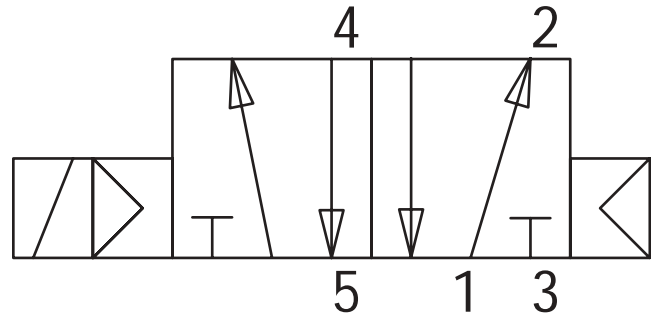
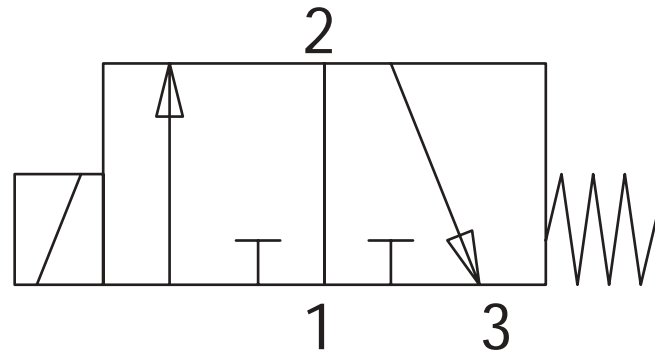
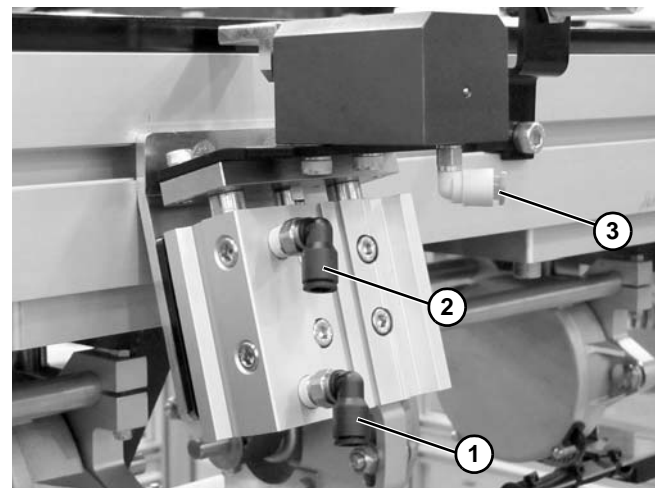

Figure 46
Figure 47
Figure 48
Dorner recommends using a 5 port, 2 way solenoid valve (Figure 46) to operate stop height.
Dorner recommends using a 3 port, 2 way solenoid valve (Figure 47) to operate cushion reset.
1. Connect port 4 (Figure 46) of the 5 port, 2 way valve to the lower port (Figure 48, item 1) on the lift. Dorner fittings accept 1/4" outside diameter tubing standard
2. Connect port 2 (Figure 46) of the 5 port, 2 way valve to the top port (Figure 48, item 2) on the lift. Dorner fittings accept 1/4" outside diameter tubing standard.
3. Connect port 2 (Figure 47) of the 3 port, 2 way valve to the cushion reset port (Figure 48, item 3).